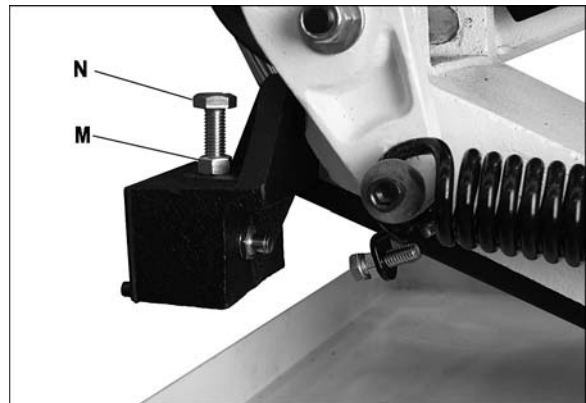

Figure 8
8. Loosen hex nut (M, Figure 8) and turn stop screw (N) as needed, until cutting plate is level. Tighten hex nut.